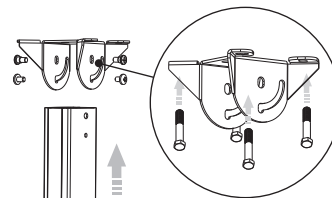
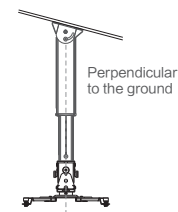
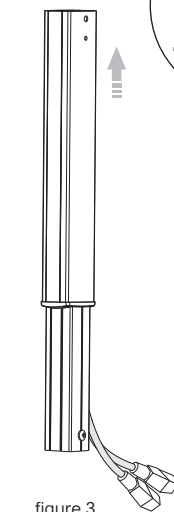
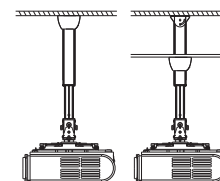

figure 1
figure 2
figure 3
figure 4
- 1 Install the fixation on the ceiling (screws of accessory ① or ⑦) as figure 1, and the fixation also can be installed on the ceiling which angle is less than 15° as figure 2. GPCN-E can be installed to the concrete-roof with ceiling or without ceiling, such as figure 3 and figure 4.